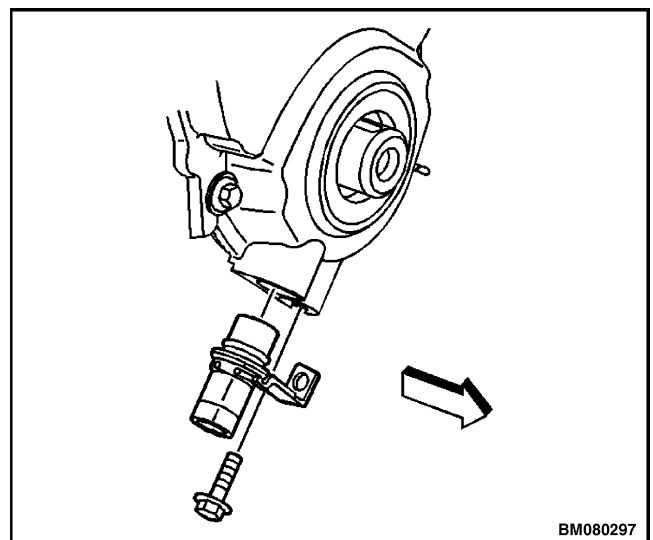

Figure 36. Crankshaft Position (CKP) Sensor Remove/Install
3. Remove the CKP sensor. See Figure 36.
3. Install the CKP sensor. See Figure 36.